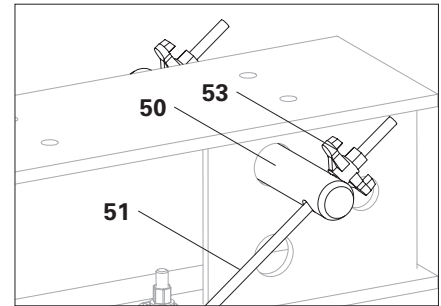

Fig. A6.24a
2. Insert Tie Rod DW 15 (**51**) diagonally on both sides. (Fig. A6.24a)